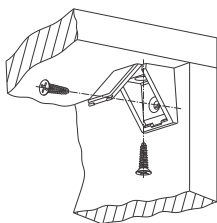

Fig 2
2. Assemble Screws as shown in Fig. 2.